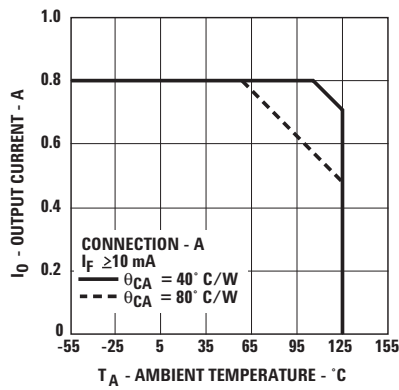
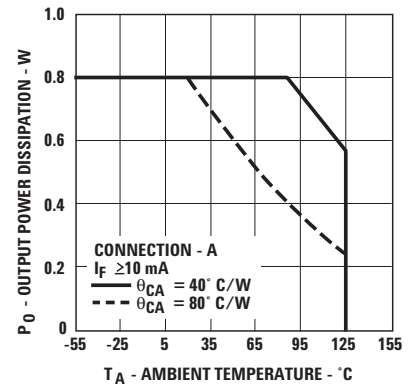

Figure 2. Maximum Average Output Current Rating vs. Ambient Temperature.
Figure 4. Output Power Rating vs. Ambient Temperature.
- For rating, see Figure 4. The output power P_O rating curve is obtained when the part is handling the maximum average output current I_O as shown in Figure 2.
IN ORDER TO DETERMINE V_{OUT} CORRECTLY, THE CASE TO AMBIENT THERMAL IMPEDANCE MUST BE MEASURED FOR THE BURN-IN BOARDS TO BE USED. THEN, KNOWING θ_{CA} , DETERMINE THE CORRECT OUTPUT CURRENT PER FIGURES 2 AND 4 TO INSURE THAT THE DEVICE MEETS THE DERATING REQUIREMENTS AS SHOWN.
The output on-resistance, R_{ON} , specified in this data sheet, is the resistance measured across the output contact when a pulsed current signal ($I_O = 800 \text{ mA}$) is applied to the output pins. The use of a pulsed signal ($\leq 30 \text{ ms}$) implies that each junction temperature is equal to the ambient and case temperatures. The steady-state resistance, R_{SS} , on the other hand, is the value of the resistance measured across the output contact when a DC current signal is applied to the output pins for a duration sufficient to reach thermal equilibrium. R_{SS} includes the effects of the temperature rise of each element in the thermal model. Rating curves are shown in Figures 2 and 4. Figure 2 specifies the maximum average output current allowable for a given ambient temperature. Figure 4 specifies the output power dissipation allowable for a given ambient temperature. Above 55°C (for $\theta_{CA} = 80^{\circ}\text{C}/\text{W}$) and 107°C (for $\theta_{CA} = 40^{\circ}\text{C}/\text{W}$), the maximum allowable output current and power dissipation are related by the expression $R_{SS} = P_{O(max)} / (I_{O(max)})^2$ from which R_{SS} can be calculated. Staying within the safe area assures that the steady-state junction temperatures remain less than 150°C . As an example, for $T_A = 95^{\circ}\text{C}$ and $\theta_{CA} = 80^{\circ}\text{C}/\text{W}$, Figure 2 shows that the output current should be limited to less than 610 mA. A check with Figure 4 shows that the output power dissipation at $T_A = 95^{\circ}\text{C}$ and $I_O = 610 \text{ mA}$, will be limited to less than 0.35 W. This yields an R_{SS} of 0.94Ω .